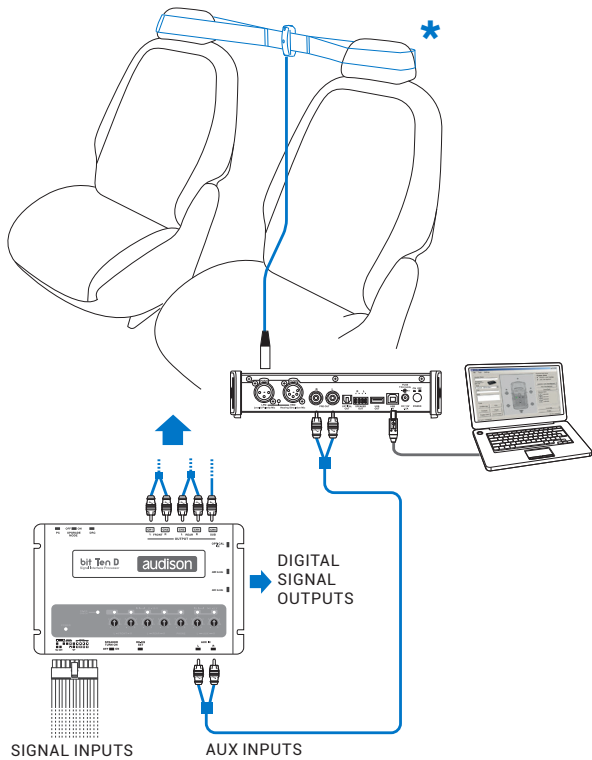

Fig 1.
- Connect the bit Tune to the Audison bit processor, as shown in fig. 1, 2 or 3 (see points **A**, **B** and **C**).